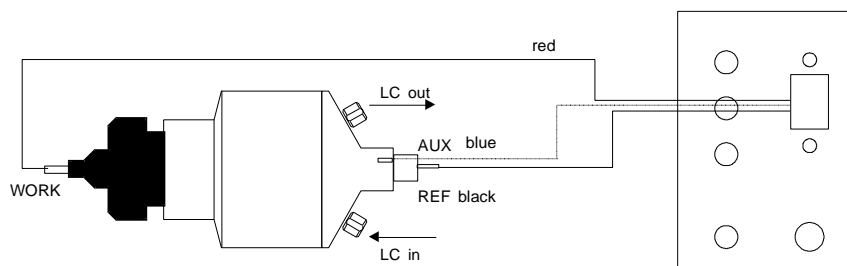

Fig. 5. ReactorCell and cell cable (for ROXY potentiostat™). WORK, AUX and REF are connected using the red, blue and black lead of the cell cable, respectively.
9. Connect the cell cable to the ReactorCell as illustrated in the Fig. 5. The red connector should be connected to the Working electrode, the black one to the HyREF reference electrode and the blue connector to the Auxiliary electrode.
8. Place the cell with the outlet on top to prevent entrapment of bubbles. Connect the cell cable as illustrated in Fig. 5.